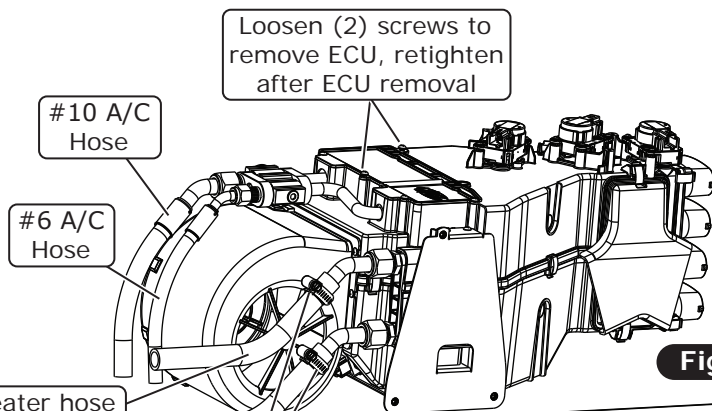

Figure 2
2. Install (4) 1/4-20 x 3/4" black serrated flange bolts onto the firewall cover in the holes shown in Figure 2, below.
3. Secure the bolts in place with (4) 1/4" pushnut retaining bolts from the opposite side of the firewall cover (See Figure 2, below).
3. Install the floor plenum as shown in Figure 2, below, using (2) spring clips.
4. Install the (3) plastic plugs at the locations shown in Figure 2, below.
5. Install the evaporator/firewall bracket using (4) #10 x 5/8" screws (See Figure 2, below).
6. Install the heater fittings with properly lubricated O-rings (See Lubricating O-rings, Page 8) as shown in Figure 2, below.
1. Remove the ECU from the evaporator module by loosening the (2) ECU mounting screws (See Figure 2, below).
4. Install the A/C and heater hoses as shown in Figure 2, below.
5. Lift the evaporator module up under the dashboard. Secure the module loosely to the firewall cover using (3) 1/4-20 x 3/4" black serrated flange bolts as shown in Figure 2, below.
1. Locate the #8 compressor A/C hose. Lubricate (2) #8 O-rings (See Lubricating O-rings, Page 8) and connect the 135° female fitting with 134a service port to the #8 discharge port on the compressor. Route the straight female fitting to the #8 condenser hardline (See A/C & Heater Hose Routing, Page 16). Tighten each fitting connection as shown in Lubricating O-rings, Page 8.
2. Locate the #10 compressor A/C hose. Lubricate (2) #10 O-rings (See Lubricating O-rings, Page 8) and connect the #10 90° female fitting with 134a service port to the #10 suction port on the compressor. Route the 45° female fitting to the #10 fitting on the evaporator (See Figure 2, Page 13, and A/C & Heater Hose Routing, Page 16). Tighten each fitting connection as shown in Lubricating O-rings, Page 8. Install a #10 Adel clamp on the #10 A/C hose, and secure to the passenger-side fender well using a 10-32 x 1/2" pan head screw and a 10-32 nut with star washer (See A/C & Heater Hose Routing, Page 16).
3. Locate the #6 evaporator A/C hose. Lubricate (2) #6 O-rings (See Lubricating O-rings, Page 8) and connect the straight female fitting to the drier. Route the 45° female fitting to the #6 fitting on the evaporator (See Figure 2, Page 13, and A/C & Heater Hose Routing, Page 16). Tighten each fitting connection as shown in Lubricating O-rings, Page 8. Install the #6 Adel clamp on the #6 A/C hose, and secure to the passenger-side fender well using a 10-32 x 1/2" pan head screw and 10-32 nut with star washer (See A/C & Heater Hose Routing, Page 16).
1. Route a piece of heater hose from the water pump to the top heater fitting of the heater core as shown in Figure 2, Page 13, and Figure 1, below. Secure using hose clamps.
2. Route a piece of heater hose from the intake to the bottom heater fitting of the heater core as shown in Figure 2, Page 13, and Figure 1, below. **NOTE: Install the heater control valve in line with the intake manifold (pressure side) heater hose, and secure using hose clamps as shown in Figure 1, below. Also note proper flow direction.**